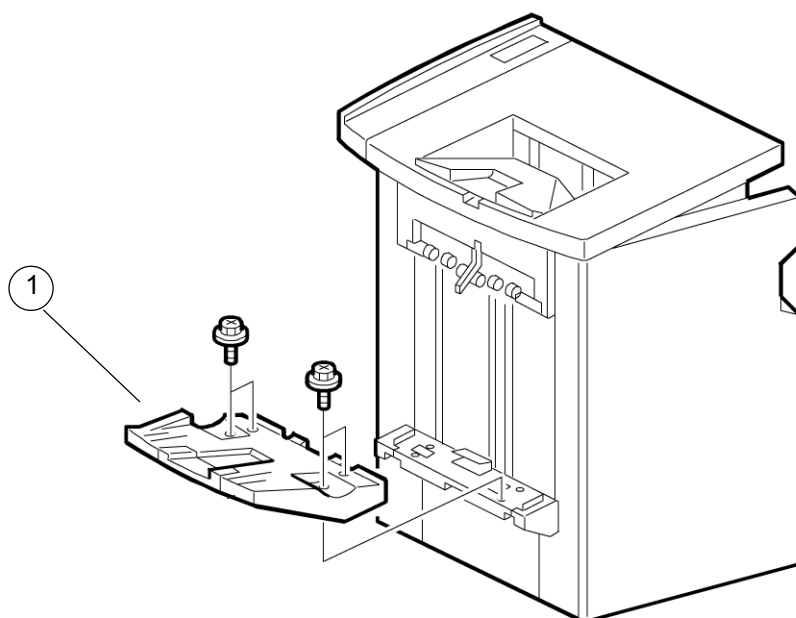

Figure 8
6. Remove the printer exit tray (1) from the printer by removing four 5.5 mm screws, figure 8.